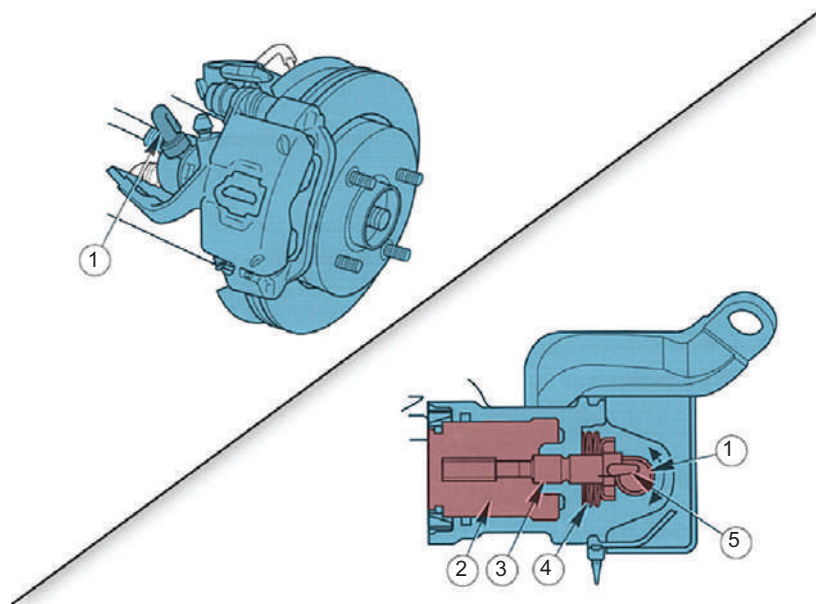

Figure 4.100 Sliding calliper parking brake: 1, moving lever; 2, piston; 3, adjusting screw; 4, spring washers; 5, cam
Inside a brake drum, the handbrake linkage is usually a lever mechanism as shown in Fig. 4.100. This lever pushes the shoes against the drum and locks the wheel. The handbrake lever pulls on one or more cables and has a ratchet to allow it to be locked in the 'on' position. There are several ways in which the handbrake linkage can be laid out to provide equal force, or compensation, for both wheels:
- equalizer on a single cable pulling a U-section to balance effort through the rear cable (as shown in Fig. 4.100)